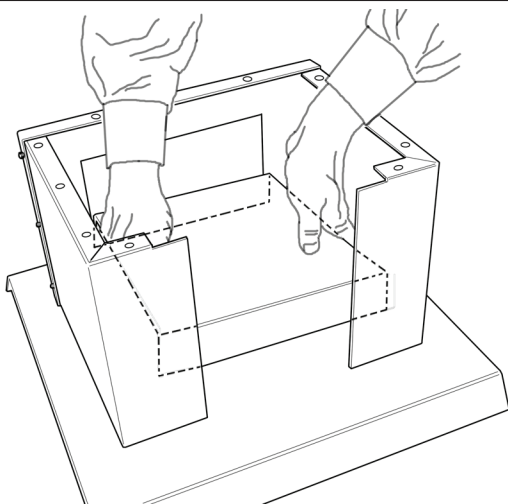

Figure 5 – Insert Ash Drawer Support.
4. Attach the pedestal front frame to the sides. The pedestal front should go over (not inside of) the side panels. Use three (3) self-tapping screws (provided in the hardware pack) on each side to attach both pedestal sides (#15) to the pedestal front (#17).
5. Position ash drawer support into assembled pedestal (Figure 5) and secure from rear with two (2) machine screws, lockwashers and hex nuts. Tighten all pedestal hardware.